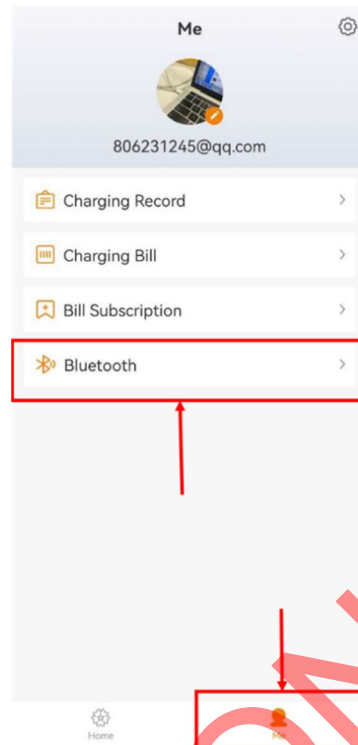

Figure 5-11: Choose Bluetooth
1. Open "Star Charge" app, click "me", and then click "Bluetooth", as shown in Figure 5-11.